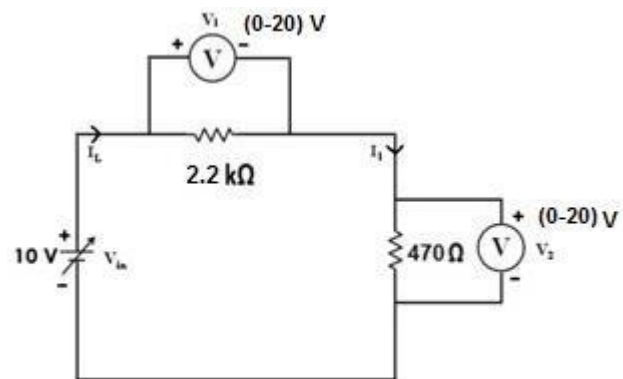

FIG. 2.4 CIRCUIT FOR VERIFICATION OF KVL
1. Connection are made as per the circuit diagram shown in figure 2.4